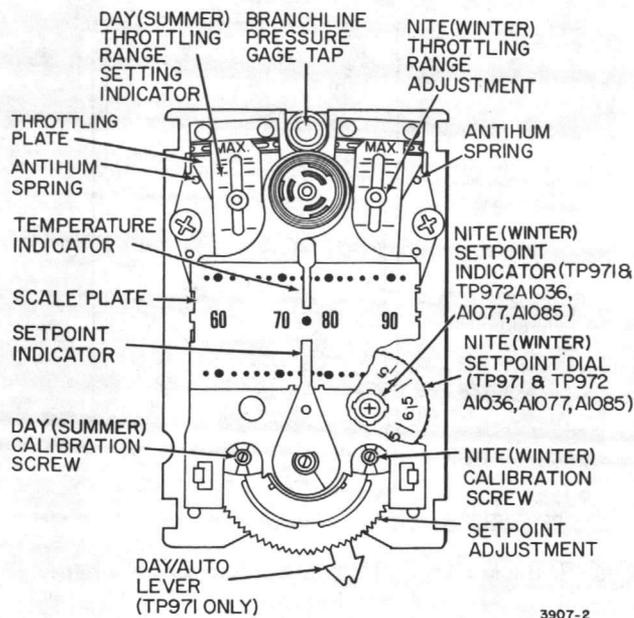

Fig. 16. Thermostat Front View, Cover Off, Showing Controls and Indicators.
1. The antihum spring (Fig. 16) must be free. Be sure the spring is not wedged against the throttling plate, but merely touches it.
1. Turn the calibration screw (Fig. 16) until the gage reads 0 psi (0 kPa).
1. With 13 psi (90 kPa) main air pressure, turn the DAY (left) calibration screw (Fig. 16) until the gage reads 0 psi (0 kPa).
4. Repeat Steps 1 and 2 using the NITE (right) calibration screw (Fig. 16). The thermostat is now in calibration.
1. With 13 psi (90 kPa) main air pressure, turn the SUMMER (left) calibration screw (Fig. 16) until the gage reads 0 psi (0 kPa).
3. With 18 psi (124 kPa) main air pressure, repeat Steps 1 and 2, using the WINTER (right calibration screw (Fig. 16). The thermostat is now in calibration.